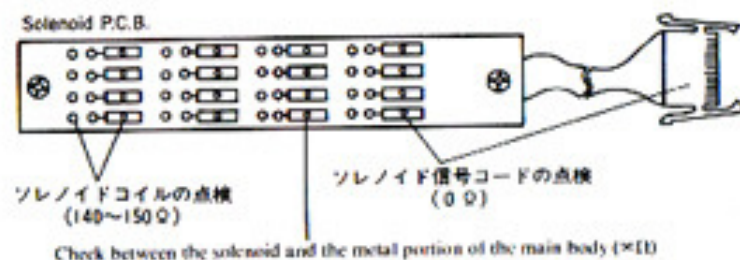

Figure 9-3
- ③ Disconnect the needle selector solenoid unit (refer to on P.45 item 11). Check the resistance values of the places which correspond to the solenoids on the solenoid PC board which were found to be bad. The resistance value of the solenoid coil should be between 140 - 150 Ω , the resistance value of the solenoid signal cord should be 0, and the resistance value of the metal portion of the main body and the solenoid should be $\infty\Omega$ (refer to figure 9-3).